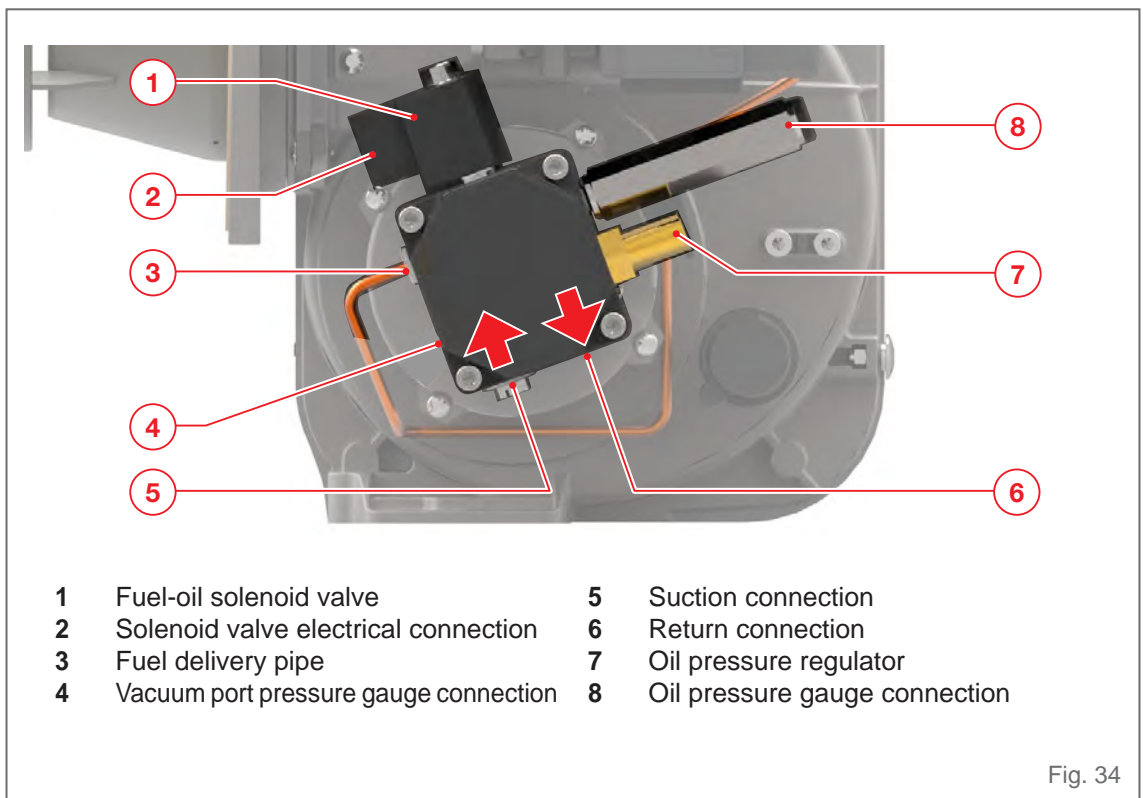

Fig. 34
The oil pressure, and therefore burner output, is adjusted using oil pressure regulator (7), see "Fig. 34", on the pump.